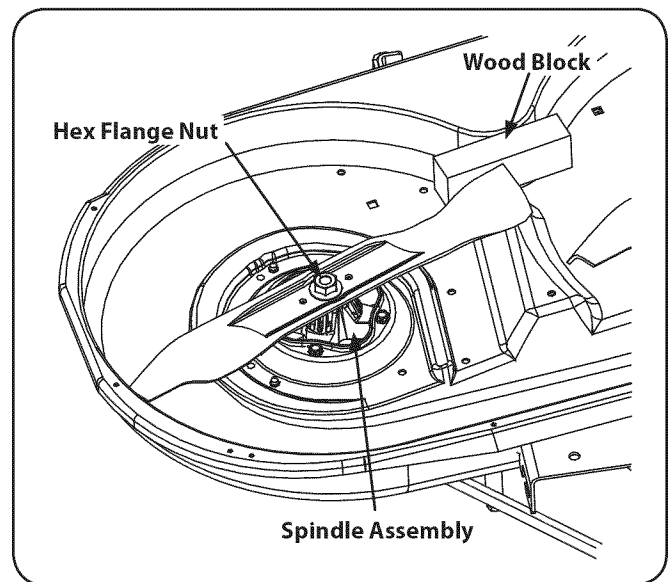

Figure 7-8
2. Use a  $1\frac{5}{16}$ ” wrench to hold the hex nut on top of the spindle assembly when loosening the hex nut securing the blade. A block of wood may be placed between the deck housing and the cutting edge of the blade to help in breaking loose the hex nut securing the blade. See Fig. 7-8.